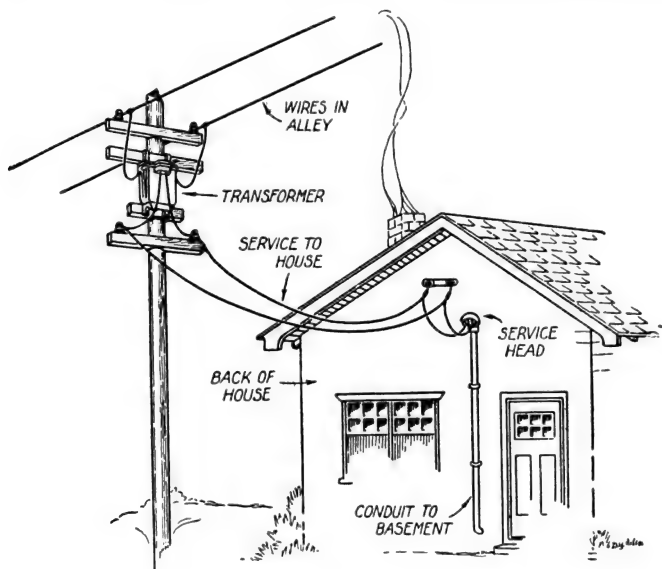

Fig. 12. Method of Supplying Electric Current to a House
**Voltage Drop in House Lighting.** Lights and other devices which are to be placed in parallel on a circuit must be of a voltage at least approximating that of the circuit. It would be better if they were of the exact circuit voltage. However, due to the fact that there is line resistance always present there is then a loss in voltage in any circuit and this is commonly known as a **line drop**. See Fig. 12.